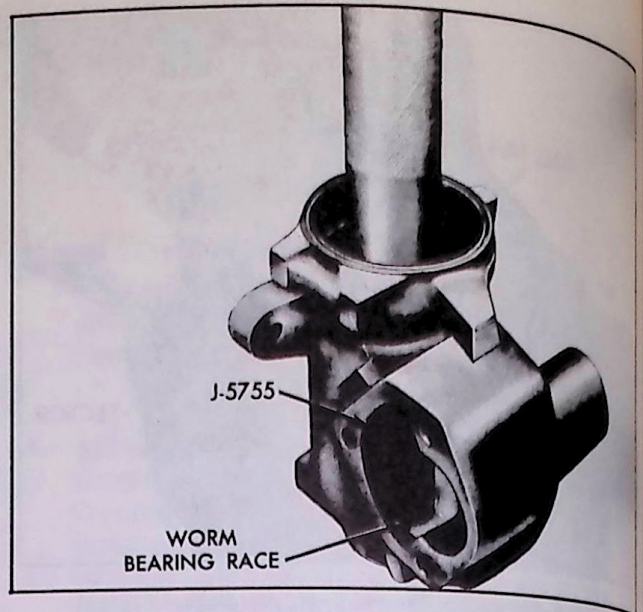

Fig. 10—Installing Wormshaft Bearing Race in Housing Using Tool J-5755—Typical
3. Press the new bearing race into position using Tool J-5755 (fig. 10).